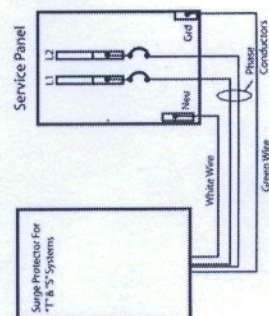

Figure 1
- Wire SPD to Service Panel - Minimize conductor lead length by cutting back excess cabling. Recommended lead length is **less than 3 feet**. In addition, conductors should be tightly taped together for the entire run. Refer to figure 1, 2, 3, 4 for section 5, wiring diagrams for connecting surge suppressor to AC power network. Device intended to be used in network with a maximum ampacity of 30A.